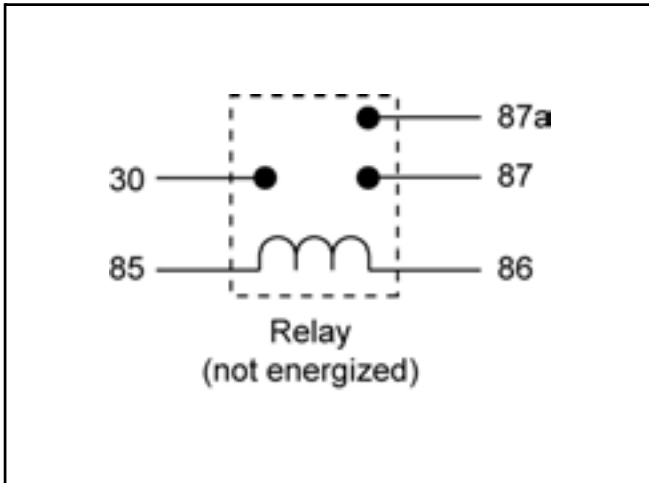

Figure 79
- Disconnect voltage and multimeter leads from relay terminals (Figure 79).